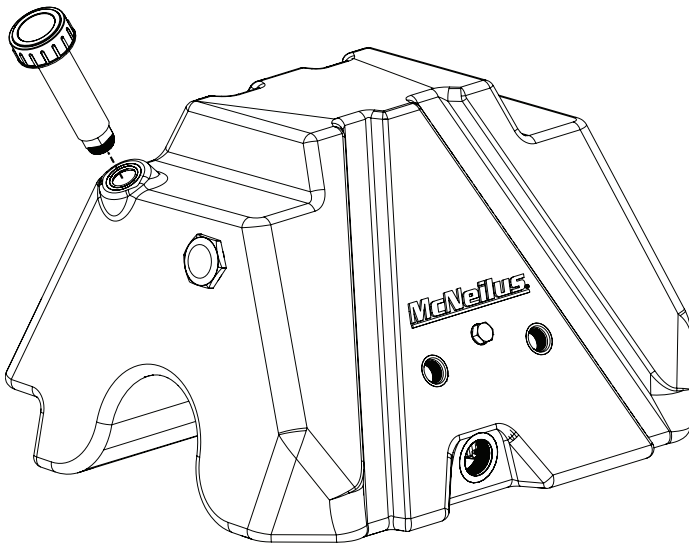

Figure 5
11. Screw the filler neck onto the nylon reservoir and use the wrench to tighten the filler neck until snug. Then turn a 1/4 turn past snug. (See Figure 5)